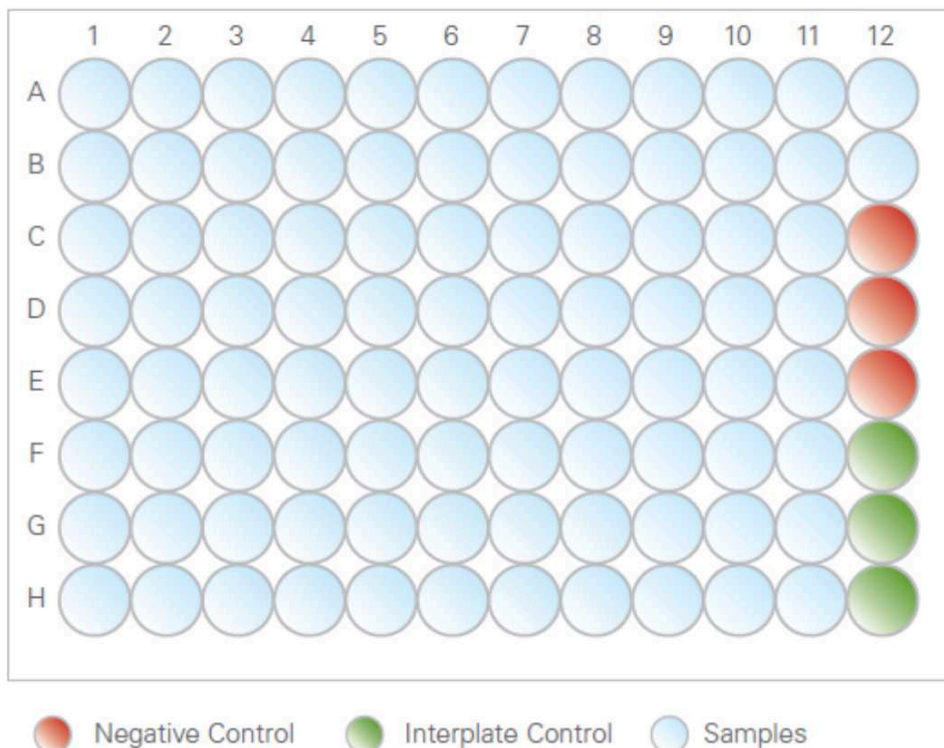

Figure 2. Incubation plate layout
- 9 Prepare a 96-well plate and label as Incubation plate. Mark the control position on the plate according to plate layout (Figure 2). Use a multi-channel pipette to transfer  3 μL of the Incubation mix from the 8-well strip to the bottom of each well of a 96-well plate by using reverse pipetting. Pipette from the uppermost part of the Incubation mix to prevent liquid from sticking to the outside of the pipette tip. Do not change pipette tips.
- 10 Use a multi-channel pipette to add 1 μ L of each sample to the bottom of the sample well of the incubation plate, according to the plate layout in Figure 2.
- 11 Use a multi-channel pipette to add 1 μ L of negative control and IPC from 8-strip to the bottom of the well in position C12-H12, according to the plate layout in Figure 2.